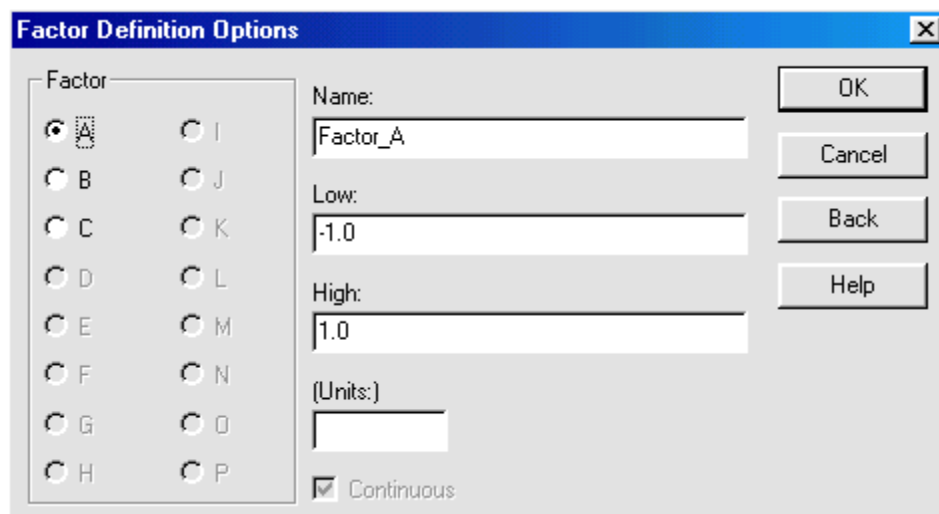

Figure 4-2. Factor Definition Options Dialog Box
3. Click OK to display the Factor Definition Options dialog box shown in Figure 4-2.